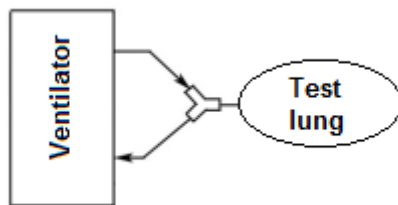

Figure 6.6 – Check of the set tidal volume
- Assemble the scheme shown in Figure 6.6.
- Assemble the scheme in Figure 6.6. Connect the breathing circuit to the device. Connect the endotracheal tube (ETT) to the patient tee. Install the breathing bag on the patient tee, previously ETT shall be placed in the breathing bag (3L).